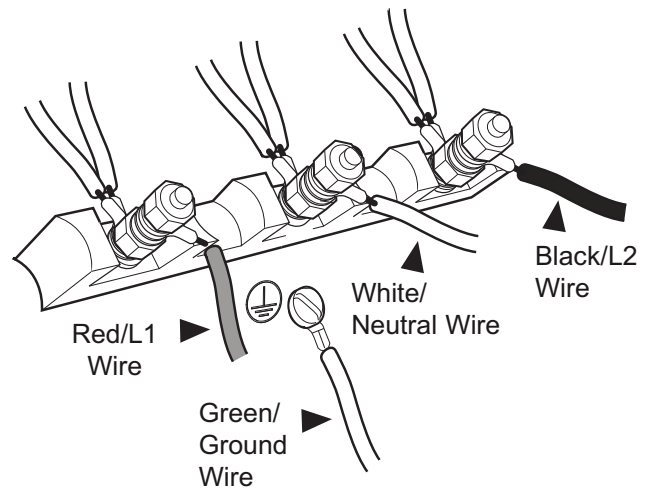

Figure 17: 4-Wire Connection
4. Secure the neutral, grounded wire of the supply circuit, to the center stud of the terminal block with nut (see *Figure 17*).
2. Mount strain relief (not provided with range) into the 1" (25.4 mm) diameter hole in the back panel located below the terminal block (see *Figure 17*). Route wires up through strain relief.